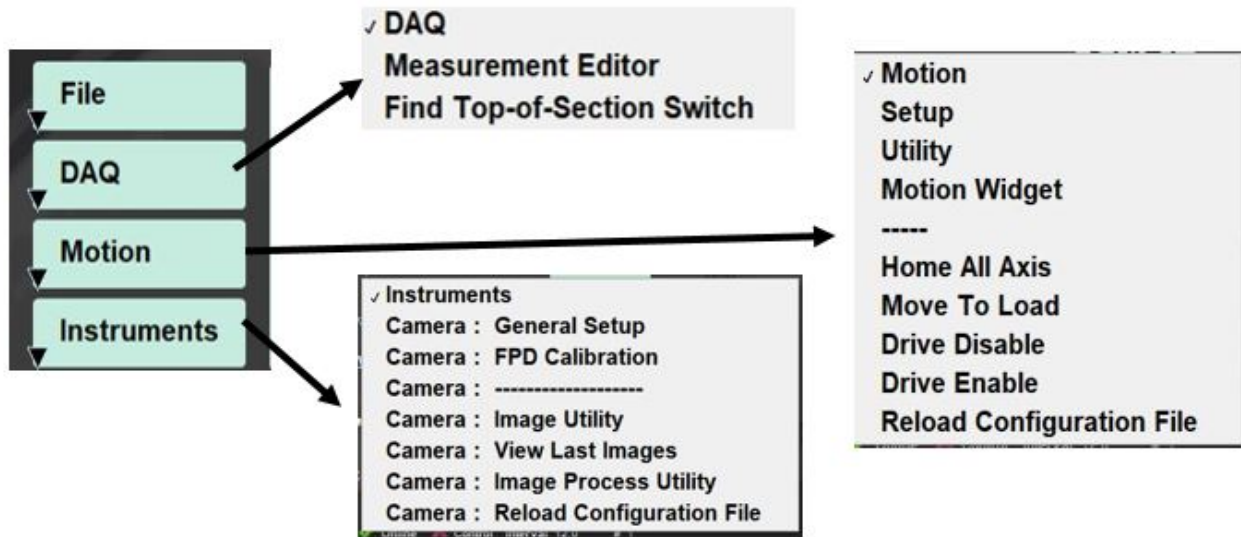
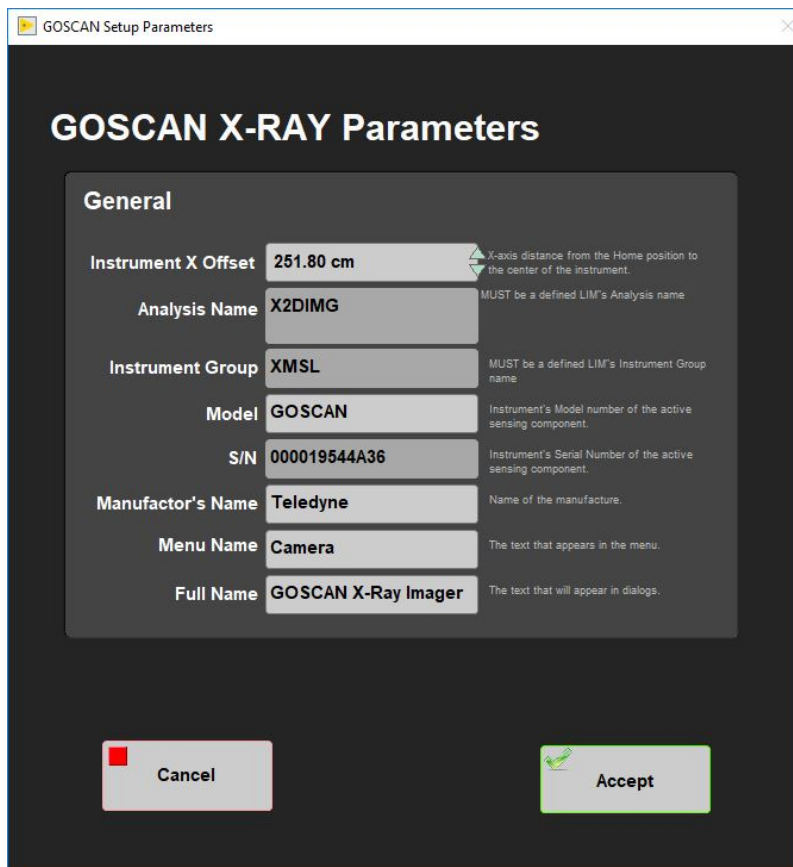
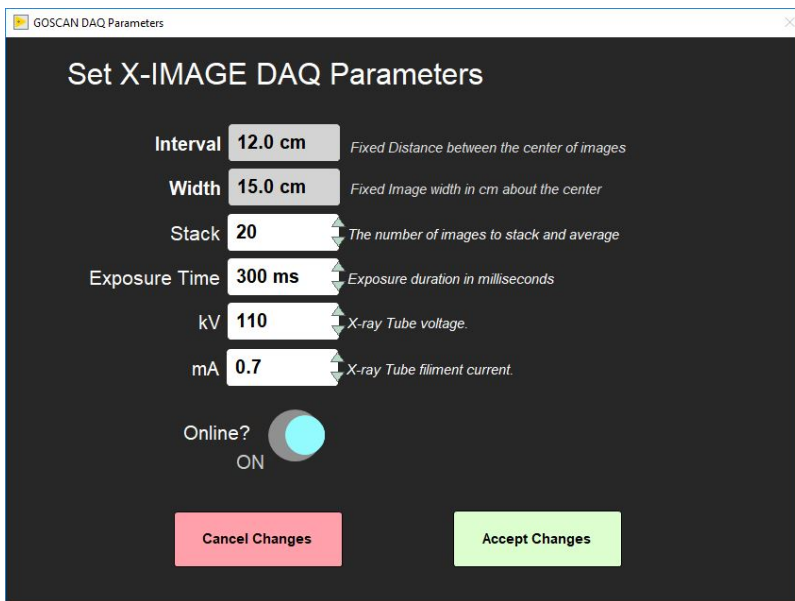

Figure 11- IMS Control Panel Drop down Menus
Figure 12- XMSL Parameters Window
Figure 14- XMSL Measurement Editor Window
The four buttons on the IMS-UI window provide access to utilities/editors via dropdown menus as shown in **Figure 11**.
To open the XMSL instrument setup window (Figure 12), select *Instruments > Camera: General Setup* from the IMS panel menu (Figure 11). These settings are related to the detector only.
1. Ensure the values in the window are set as shown in Figure 12.
To open the Measurement Editor (**Figure 14**), select **DAQ > Measurement Editor** from the IMS panel menu (**Figure 11**). This window allows the user to view and adjust the XMSL DAQ parameters.